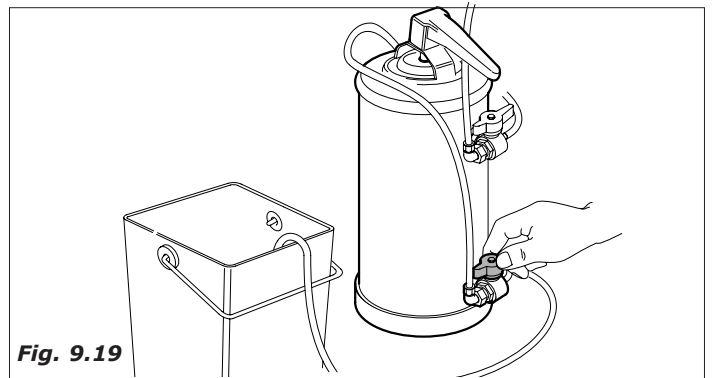

Fig. 9.19
- turn the lower faucet being careful to put the relative hose in a bucket or better in a drain (*Fig. 9.19*).